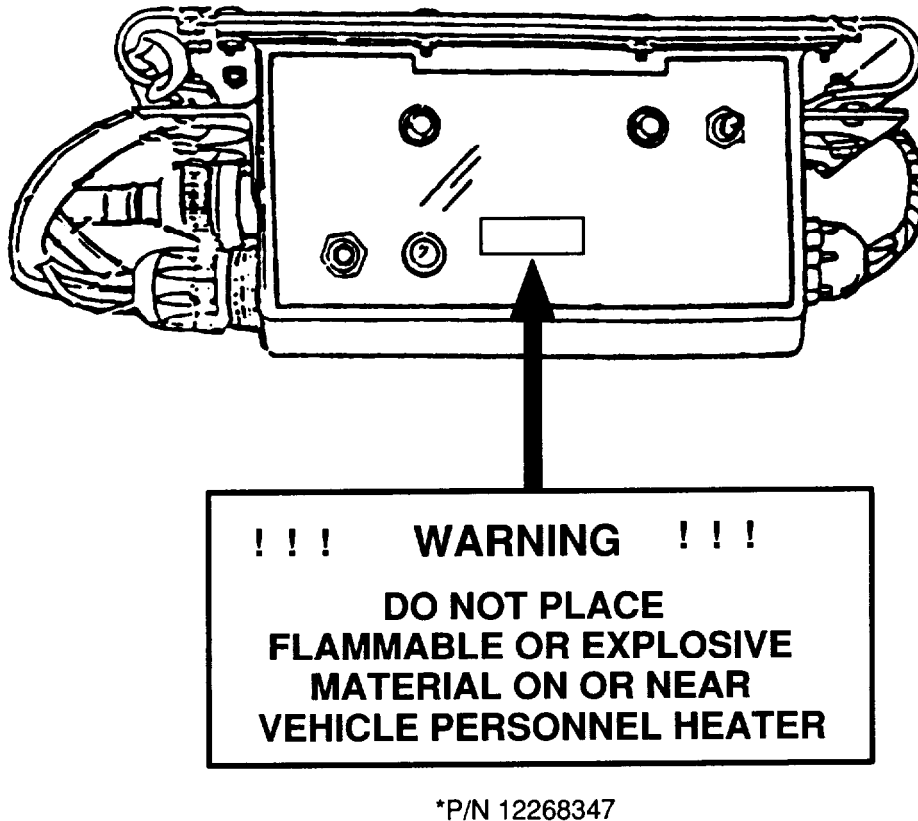

Figure 7
25. Remove the protective backing from label 12268347* and position on the face of the Accessory Control Box Panel as shown in Figure 7.